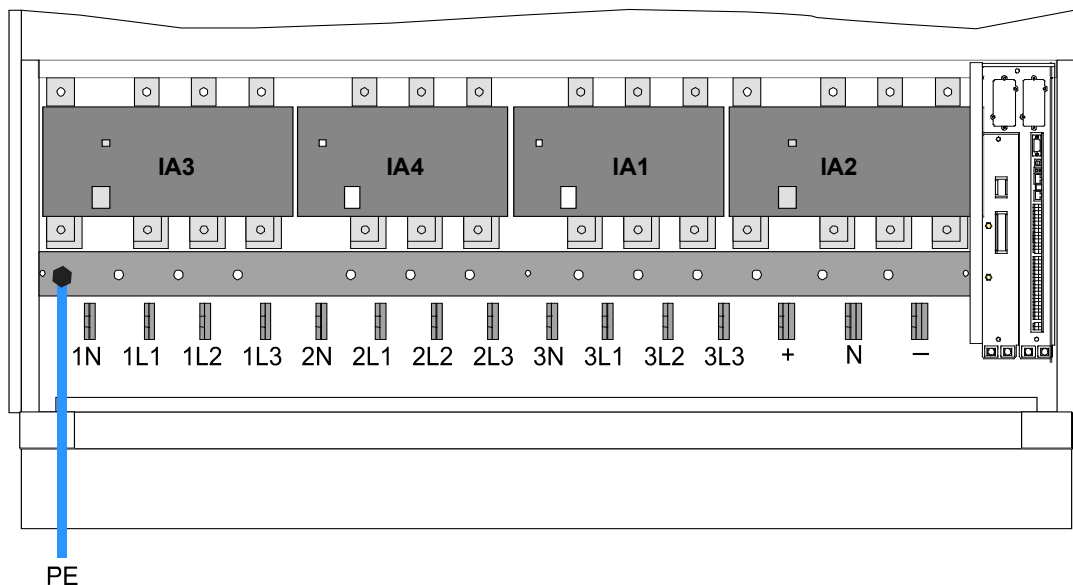

Figure 3.10 UPS cabinet power terminals
In a bottom cable entry installation the UPS power cables are connected to busbars located just below the power isolators near the bottom of the cabinet. Figure 3.10 identifies the power connections.
Note: although Figure 3.10 shows all four UPS power isolators, the Maintenance Bypass Switch (IA1) is not fitted to a parallel module UPS cabinet because an external maintenance bypass facility will be installed.
3. Connect the battery negative cables to the UPS cabinet's battery negative busbar (see also Figure 3.10).